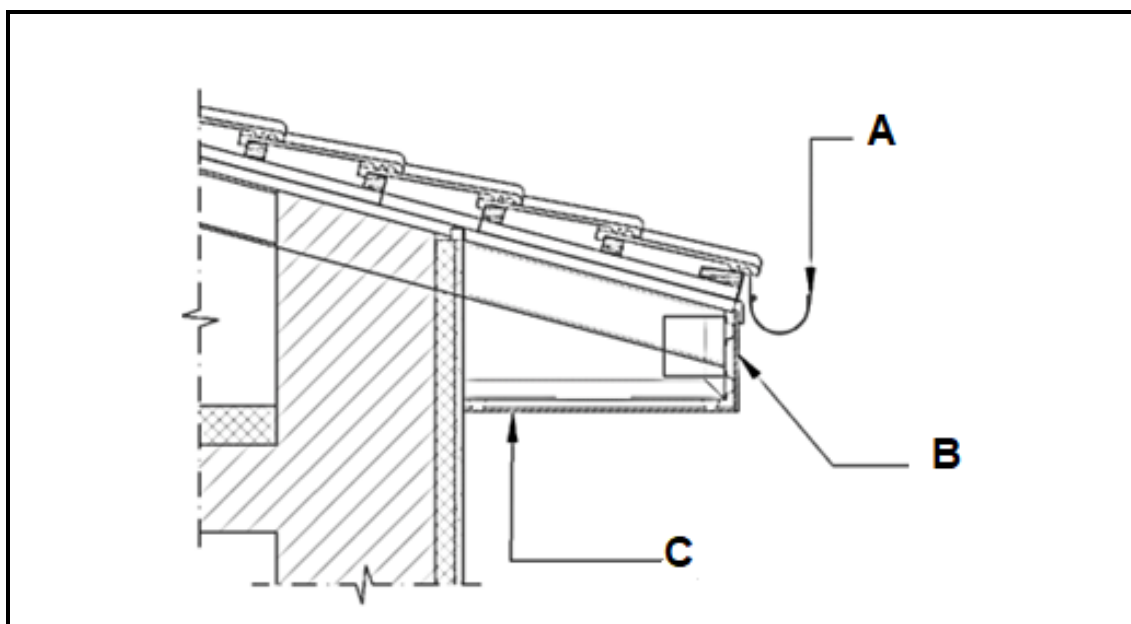

FIGURE 5.5
5.5 Answer the questions with regard to the construction in FIGURE 5.5.